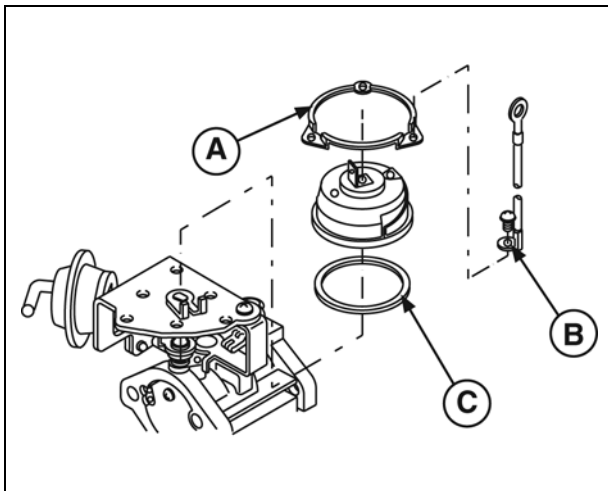

Figure 32
6. Remove three screws, thermostat retainer (A, Figure 32) and ground wire (B). Discard thermostat gasket (C).